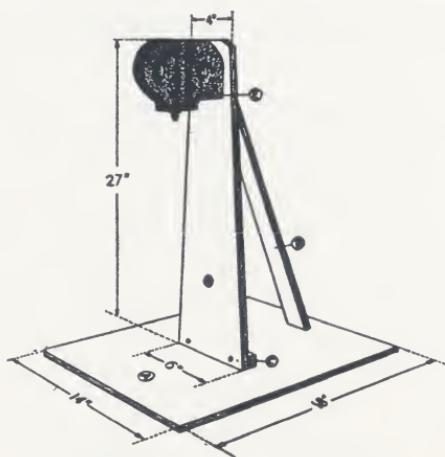

Fig. 16—Stand for animation work.
The stand for holding the camera and drawings in position is built from light wood. The base (A), Figure 16, can best be made by sawing out a piece of $\frac{3}{8}$ -inch plywood 14x18 inches. The upright (B) which suspends the camera above the base is 27 inches in height, 6 inches wide at the base and tapers to 4 inches at the top. This is fastened to the base by a cleat (C) ten inches from the front. A light brace (D) in back will hold the upright at a 90-degree angle to the base. Be sure that this last, especially, as well as the other measurements, is accurate. This is the easiest way to eliminate future trouble.
the surface of the base. A small block (E), Figure 16, curved to fit the camera will keep it steady and exactly vertical if a round magazine type is used.